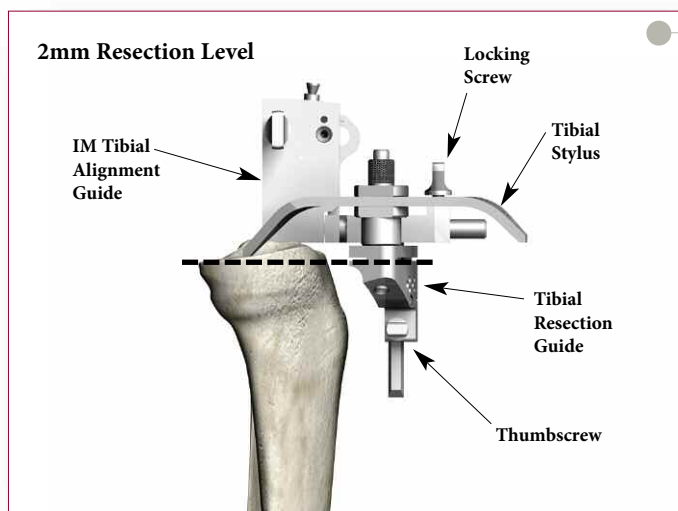

Figure 66
- The settings allow for corresponding resection of bone below the point of the stylus (i.e. the 2mm setting allows for a 2mm resection below the point of the stylus) (Figures 66 and 67).